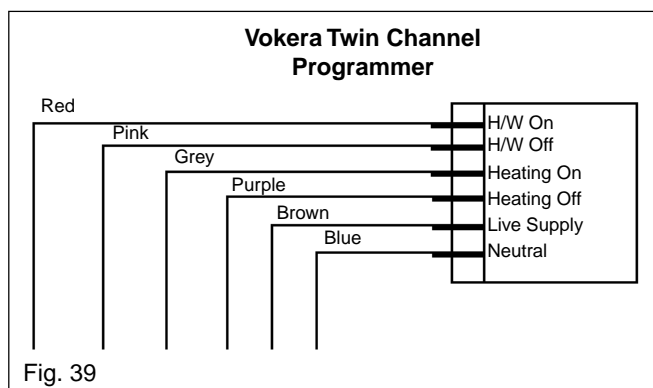

Fig. 39
**8.2 INSTALLATION OF VOKERA TWIN CHANNEL PROGRAMMER (see fig. 39)**
- Take the wires supplied with the programmer and connect them as shown in fig. 39